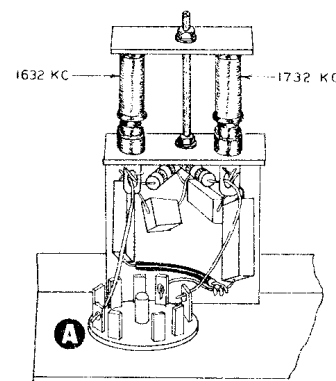

Figure 2A
- () Slip a 3/4" length of insulated sleeving over the free lead of the left .001 mfd capacitor. See Figure 2A. Bend this lead at right angles and connect to the right .001 mfd capacitor (S). Cut off excess lead.
() Assemble the crystal mounting bracket to the 1682 KC sub-chassis with 3-48 screws, lockwashers and nuts. The bracket mounts behind socket A; be careful to avoid pinching the wires at this point. See Figure 2A.